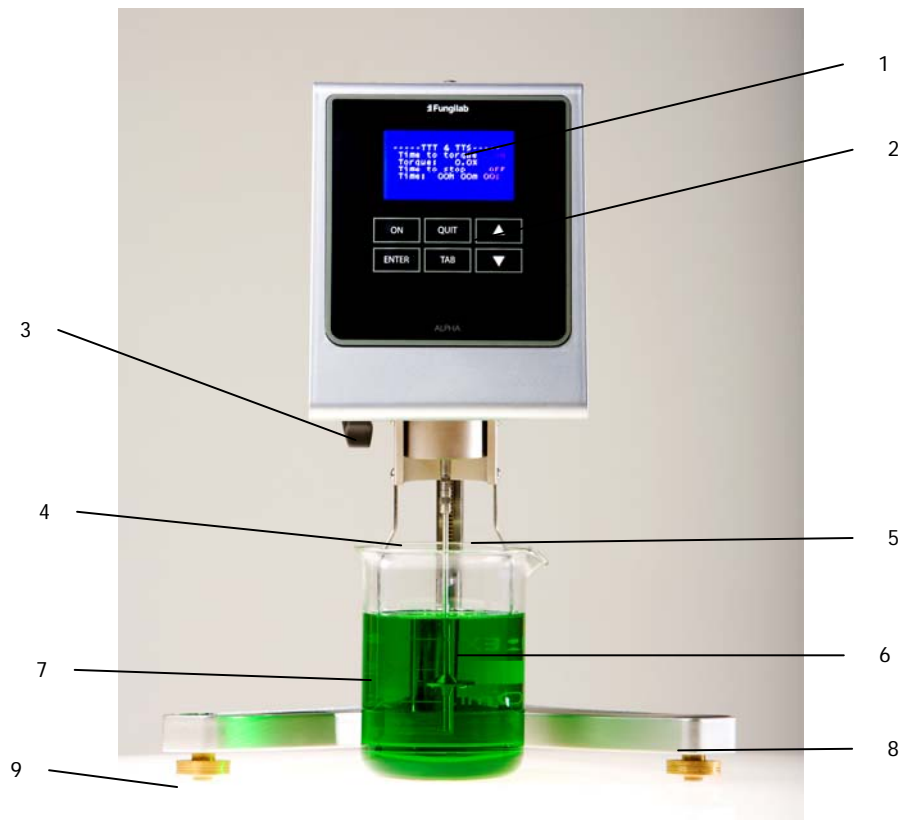

Fig. 3 Frontal view of the equipment
- Plug the power cable into its correct slot located on the back of the equipment (Fig. 3 position 4) and plug it into the power source.
Before starting up the machine, one should become familiar with the viscometer controls seen in the previous section. The instrument has a 6 key keyboard (Fig. 7) and a 4-lined Vacuum Fluorescent Display screen (number 1 Fig. 3) on the frontal part ready to use and they allow the user to interact with the machinery. The screen always shows the operations that the user is carrying out by showing menus that will be explained later on. The measurements collected by the instrument will also be explained in this manual. The keyboard gives the user the mobility throughout all of the menus, the selection of different options, and the creation and/or modification of viscosity measurement configurations to suit the user's needs.